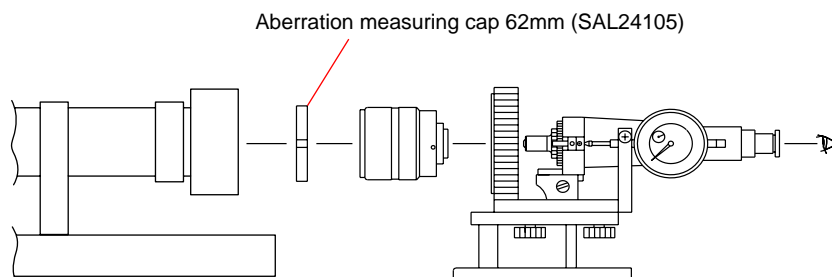

Fig.4-7-1
- 2) Set the aberration measuring cap 62mm (F8 equivalent) on the tip of lens as shown in the Fig.4-7-1, then measure the flange back (f’F).